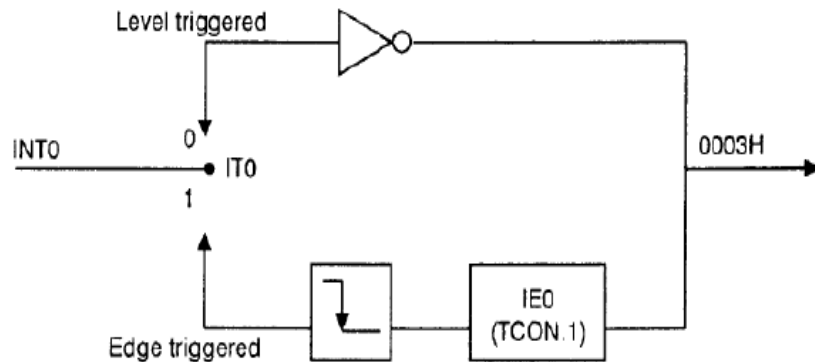

Fig. 7 Activation of INT0
- The Fig.7. Shows the serial interrupt is invoked by TI or RI flags.